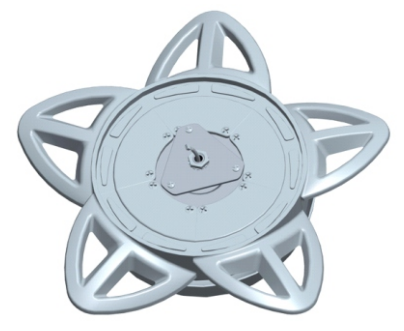

Fig 1.2
- 1.2 Five airfoils supports installed. (See Fig 1.2)